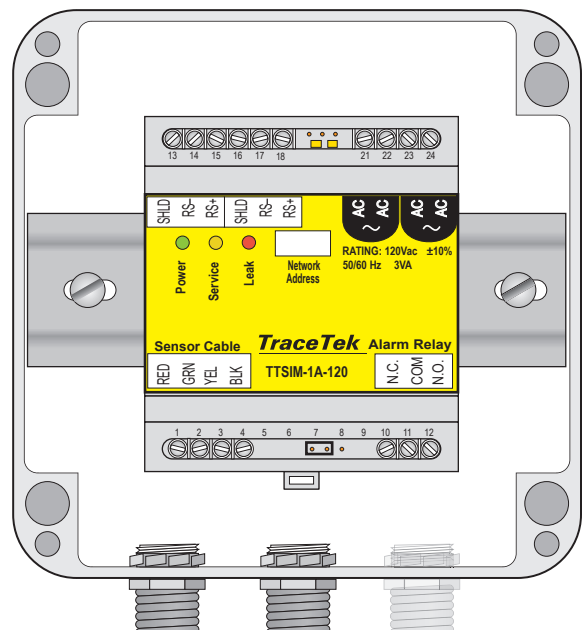

Figure 2. NEMA 4X enclosure
Mounting the TTSIM-1A module in the optional NEMA 4X Enclosure--Figure 2
- A typical outdoor or harsh environment installation will require three holes in the TTSIM-ENC: one for inbound power and telemetry, one for outbound power and telemetry and one for the sensor cable leader. See Figure 2.